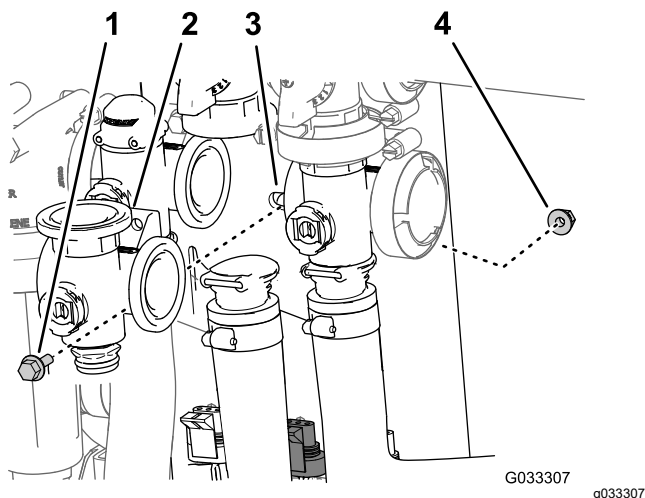

Figure 70
3. Remove the flanged-head bolt and flanged locknut that secures the agitation valve to the valve mount and remove the valve manifold from the machine (Figure 70).